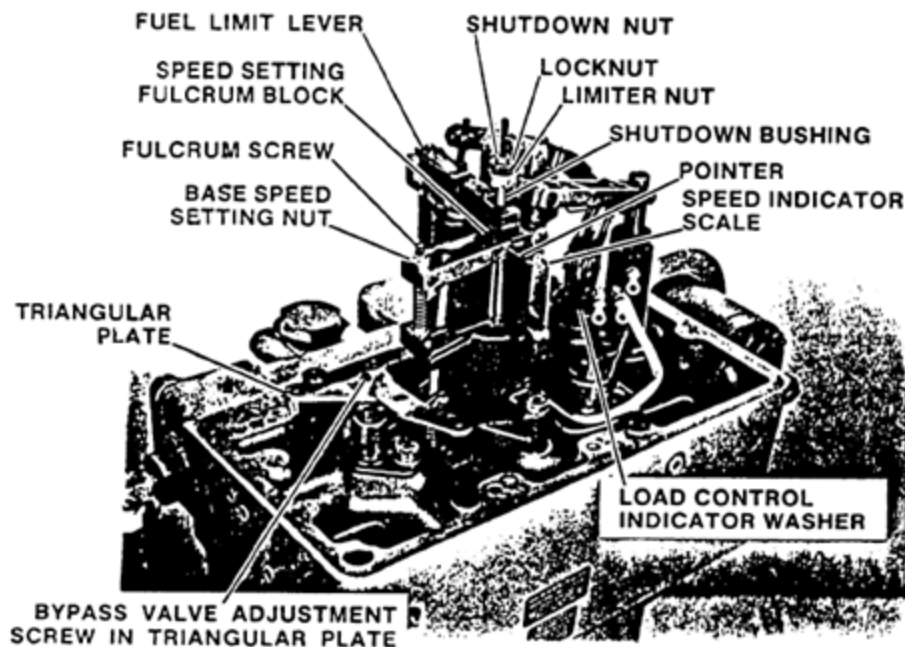

Figure 6-11. Speed Setting Assembly
- a. Thread shutdown bushing on shutdown rod to obtain 0.032 ± 0.005 inch (0.81 ± 0.13 mm) clearance between bottom of shutdown bushing and top of speed setting fulcrum block. Lock in position with small locknut. See Figure 6-11.
- b. Adjust speed setting stop by turning it down until it contacts speed setting piston then back it out 2 turns and tighten locknut. See Figure 6-11.